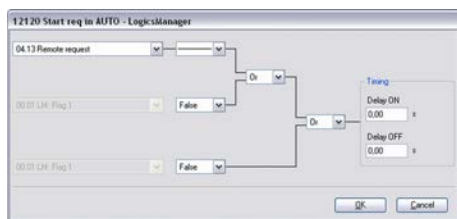

Fig. 205: LogicsManager function "Start req in AUTO"
3. ➤ Configure the LogicsManager function "Start req in AUTO" as shown in (Fig. 205).